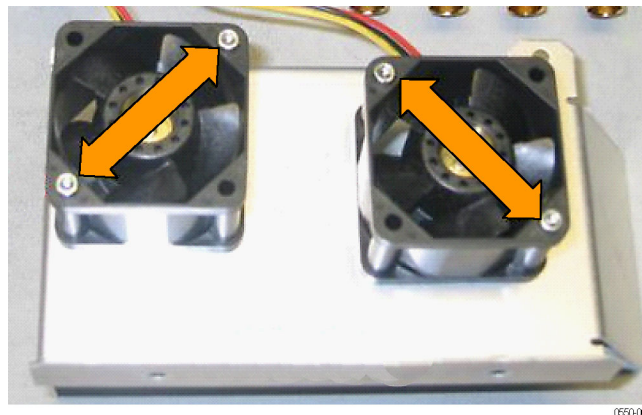

Figure 6: Fan screw placement
4. When reassembling, place the fans so that the labels are facing the fan bracket. Insert the screws in the holes shown. (See Figure 6.)